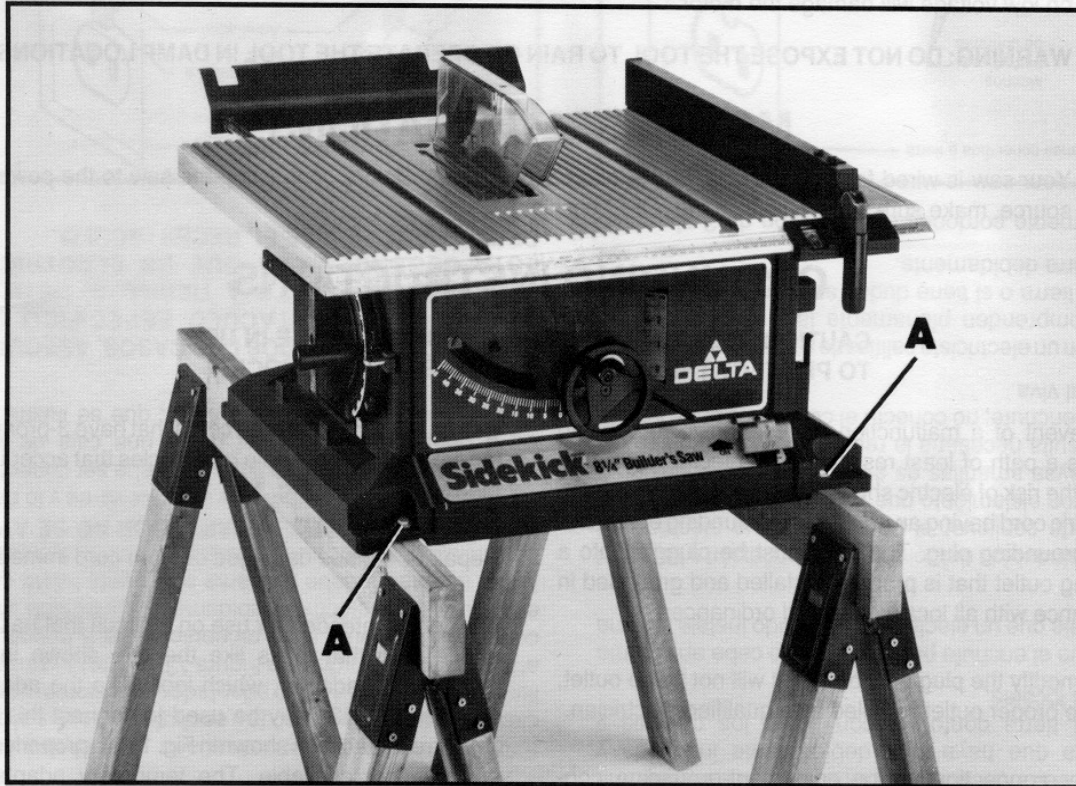

Fig. 10
1. When fastening the saw to two saw horses, as shown in Fig. 11, position the four grooves located on the base of the saw cabinet over the 2 x 4's of the saw horse and fasten in place with suitable hardware (A) Fig. 10, not supplied.